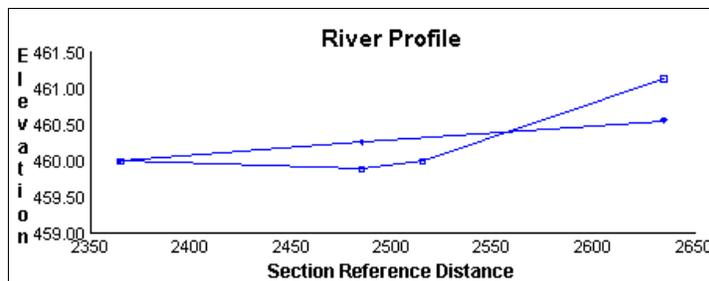

Figure 14-7 The Unconstrained vs. Constrained water surface.
4. Click the *Done* button to update the *Plot Window* as shown in Figure 14-7.